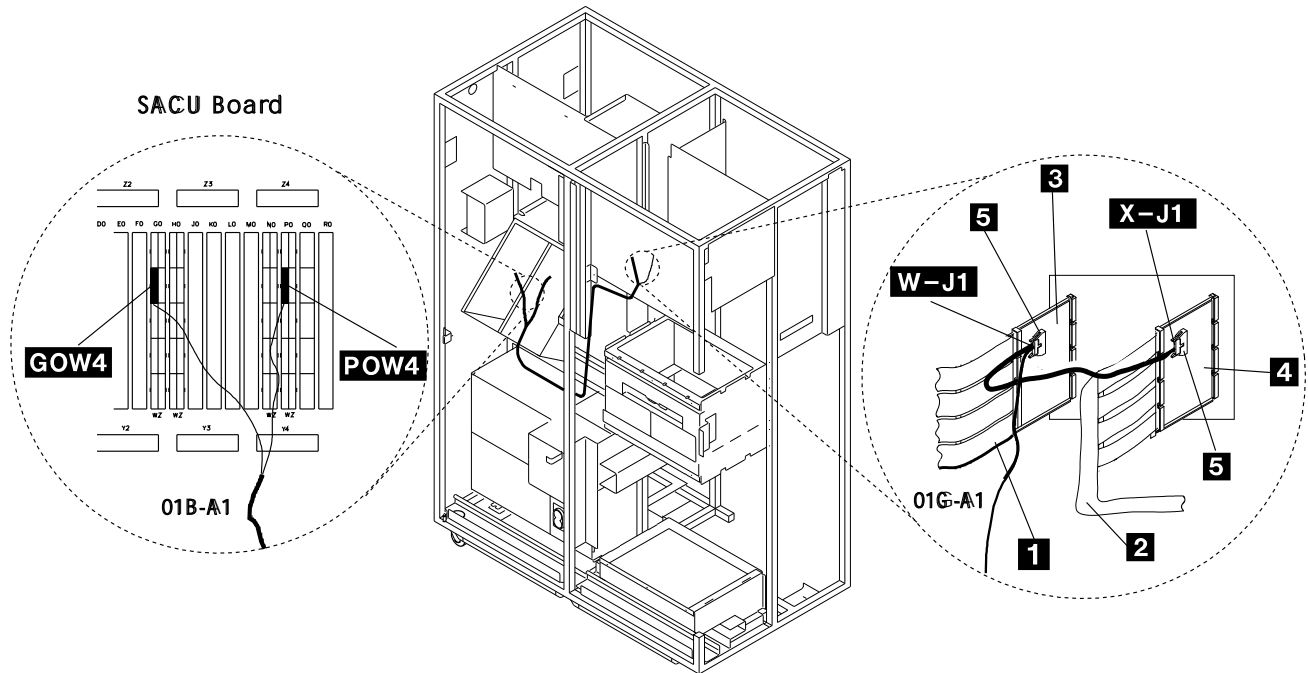
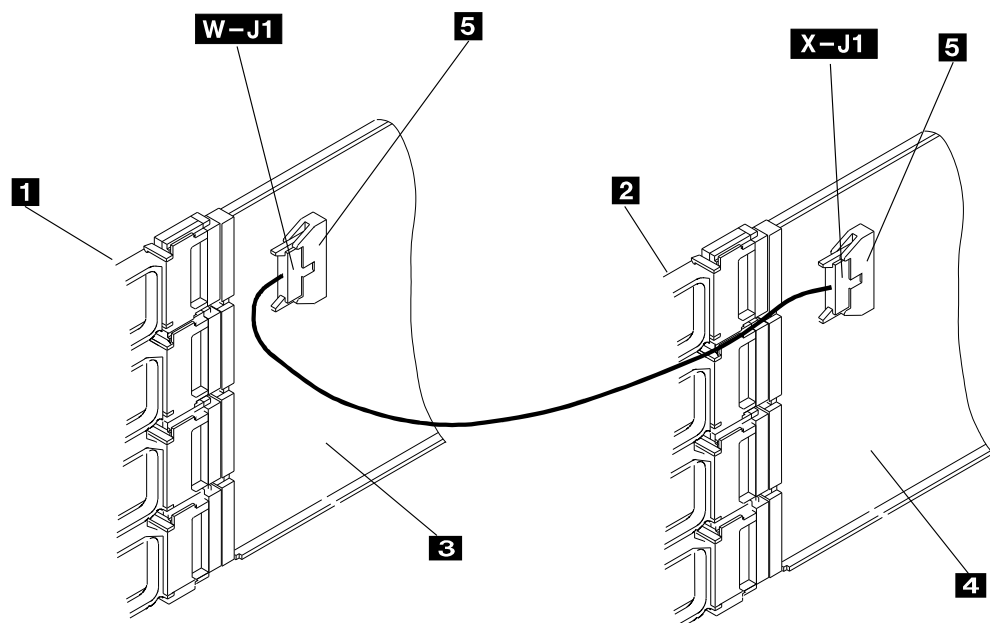

Figure 4-36. Cable 2 (PN 43G3181) Routing on a TSST Board
Figure 4-37. Cable 1 (PN 43G3180) Routing on a TSSB board
- Step 4. ____ Take a DICO card (17G6080), , remove the four interposers plugged on top of the card while holding the card in your hand, plug the DICO cable 1 (or 2) lead **X-J1** to connector **5** of the DICO card PN 17G6080. (see Figure 4-36 or Figure 4-37).
- Step 6. ____ Position the DICO card **4** in location 01G-A1 X02, and the DICO card **3** in location 01G-A1 W02 (see Figure 4-36 on page 4-37 when plugging the card into a TSST board or see Figure 4-37 on page 4-37 when plugging the card into a TSSB board).
- Step 8. ____ If you are installing a cable PN 43G3181 (from the TSST board) route this cable to the SACU control board. (refer to Figure 4-36 on page 4-37).